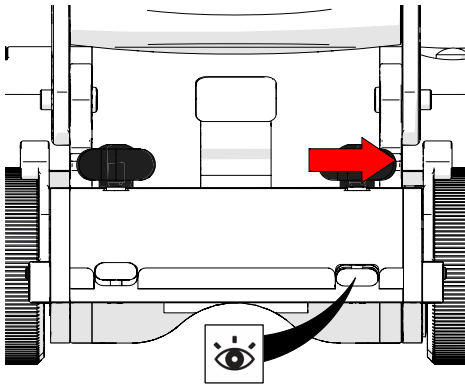

Fig. 52 - Lower dovetail jaws
3. Rotate the black wing knobs aligning the dovetail jaws with the mount's grooves (Fig. 52).